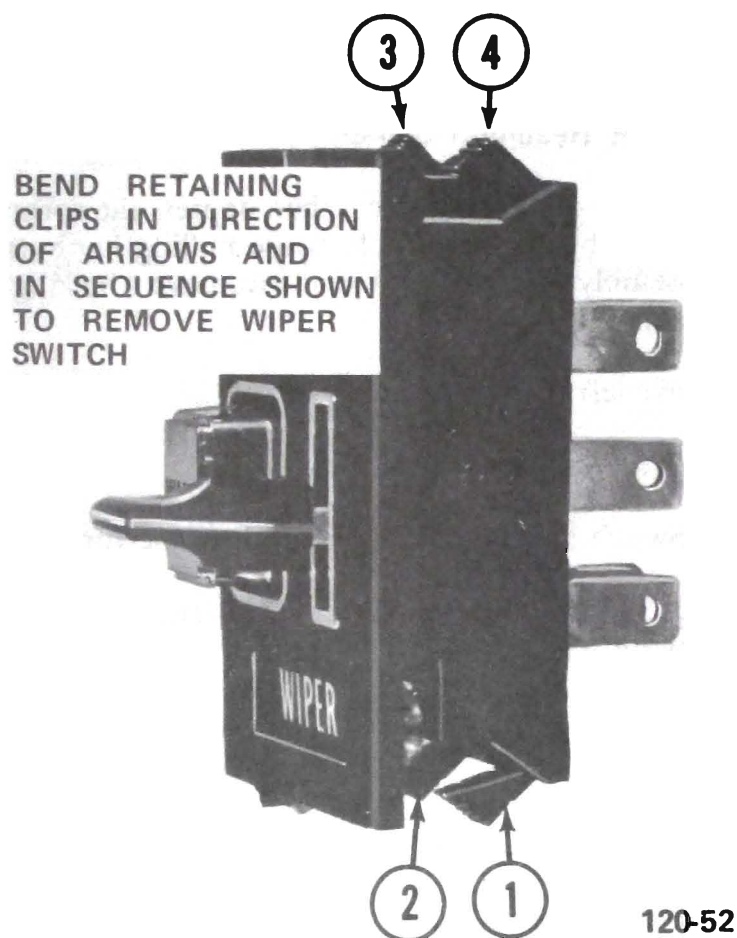

Figure 120-47 Windshield Washer Switch
3. Remove switch, as shown in Figures 120-47, 120-48, and 120-49, and remove switch from harness connector.